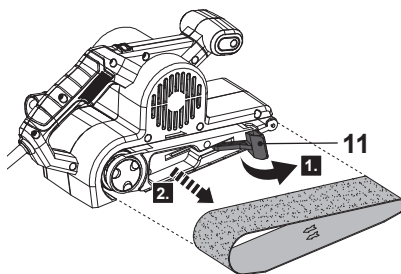

Fig. 6
- Pull the clamp lever (11) outward and remove the sanding belt (8) (Fig. 6).